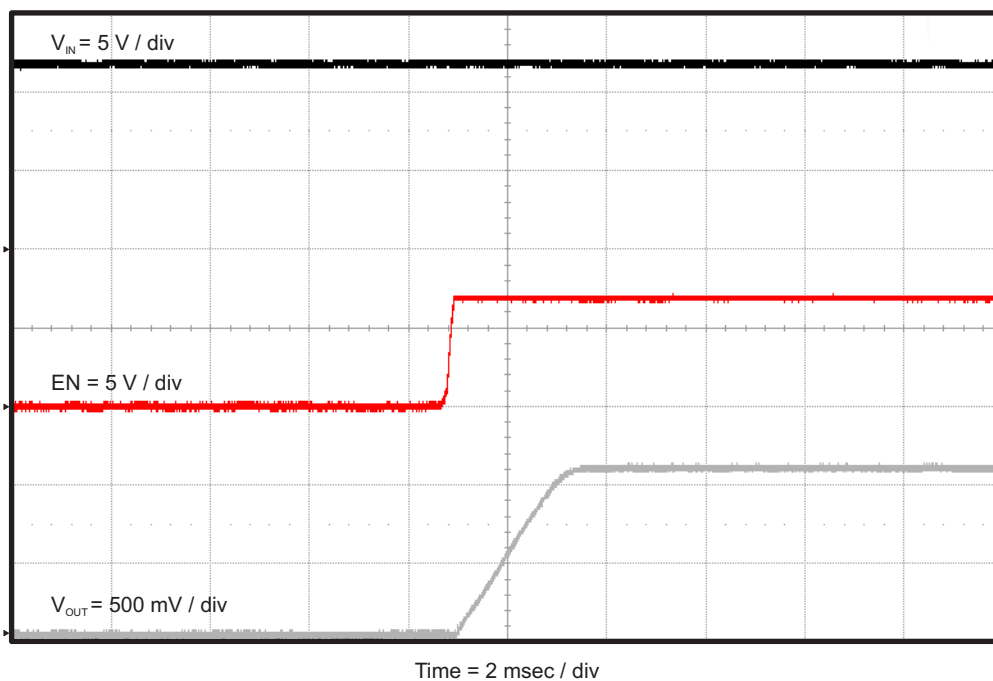

Figure 12. TPS560200EVM-537 Start-Up Relative to EN
The TPS560200EVM-537 start-up waveform relative to enable (EN) is shown in Figure 12. Load = 4 Ω resistive.